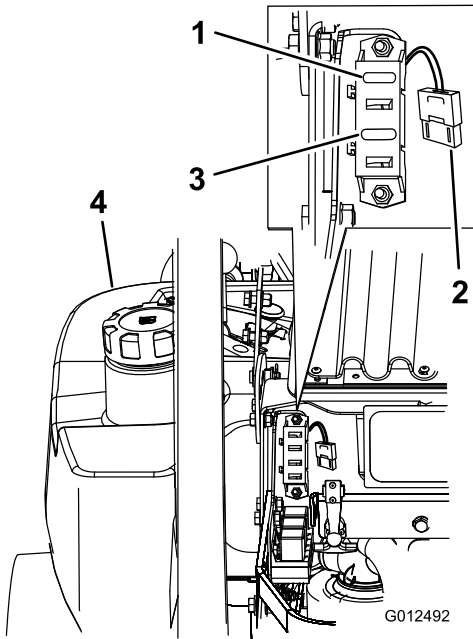

Figure 71
1. Unlatch the engine hood and raise the engine hood to gain access to fuse holder (Figure 71).
3. Install a new fuse (Figure 71).